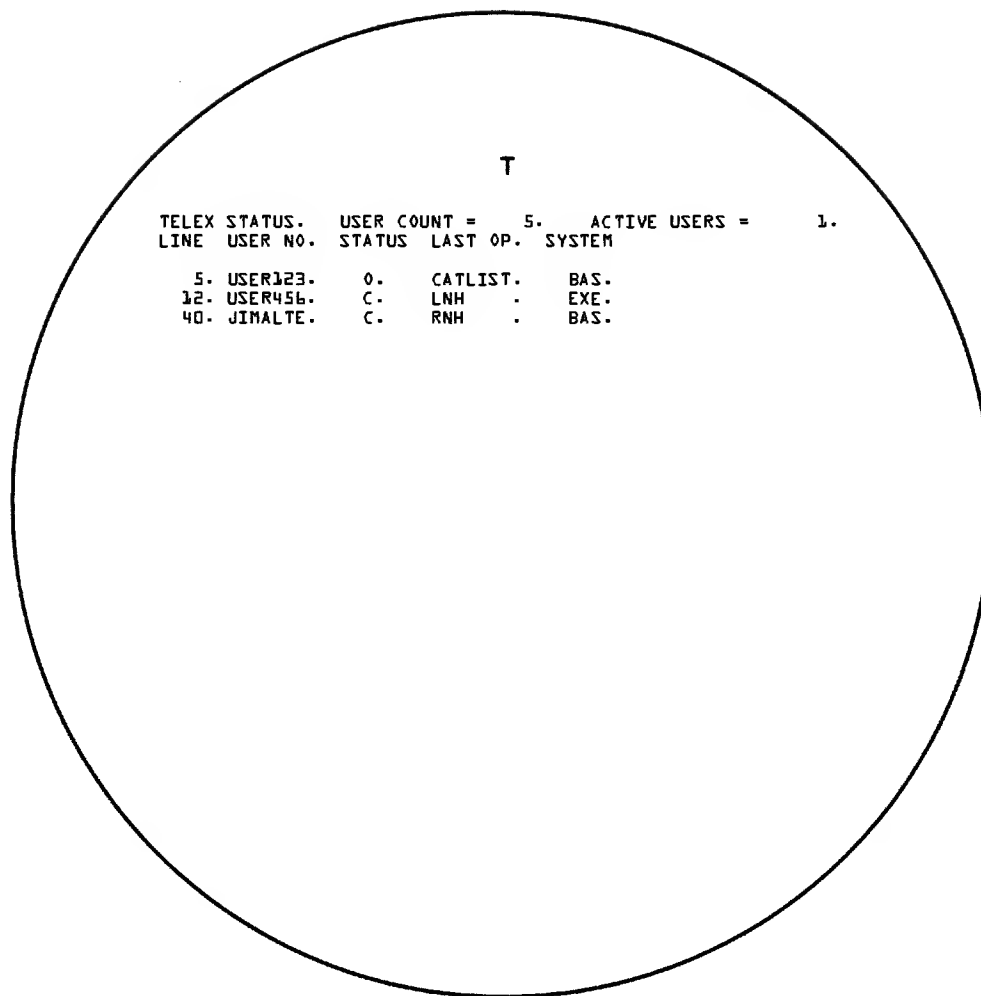

Figure 4-13. Time-Sharing Status (T) Display
Figure 4-13 illustrates the time-sharing status (T) display.